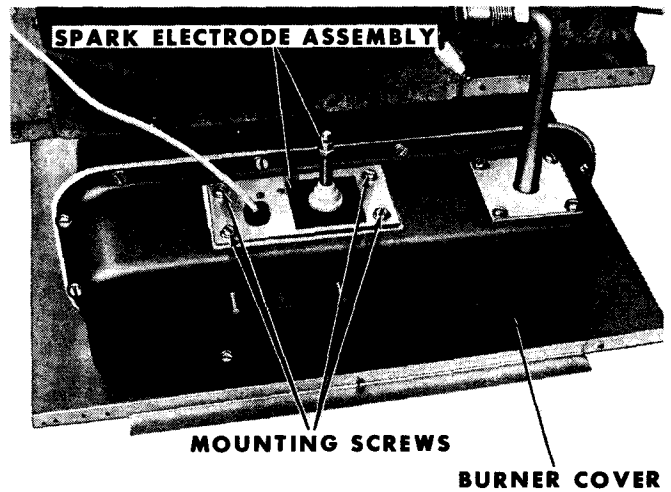
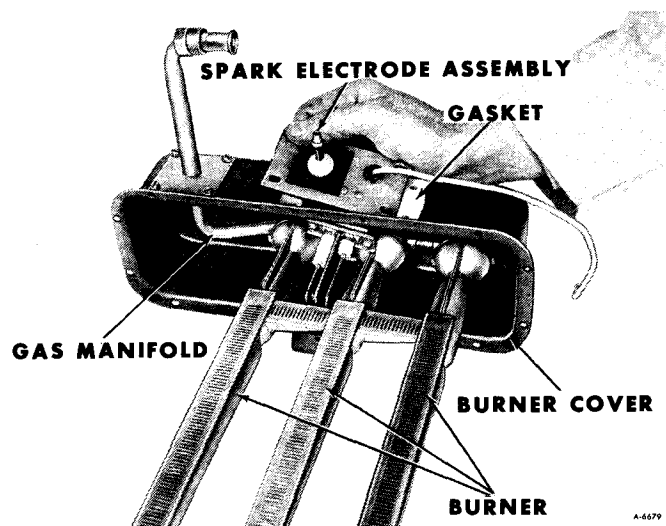

Figure 19—Spark Electrode Installed
Figure 20—Removing Spark Electrode Assembly
7. Remove four spark electrode mounting screws (figure 19).
8. Note spark electrode must clear burner orifices during removal (figure 20). Carefully move spark electrode assembly to the right. Gently tilt upward as shown, and remove from burner cover.
1. Noting the location of burner orifices (figure 20), carefully install spark electrode assembly and gasket. Secure spark electrode assembly with four mounting screws (figure 19).
**NOTE:** The burner assembly of the furnace is composed of three burners which are attached to the burner cover (figure 20).
2. Remove burner cover and gasket from combustion chamber (figure 19).
2. Install burner assembly and burner cover, and gasket in combustion chamber (figure 19).